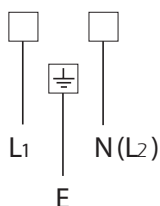

Fig. 6
- Connect the new supply cable, of suitable type and section, to the terminal board following the diagram in Fig. 6.